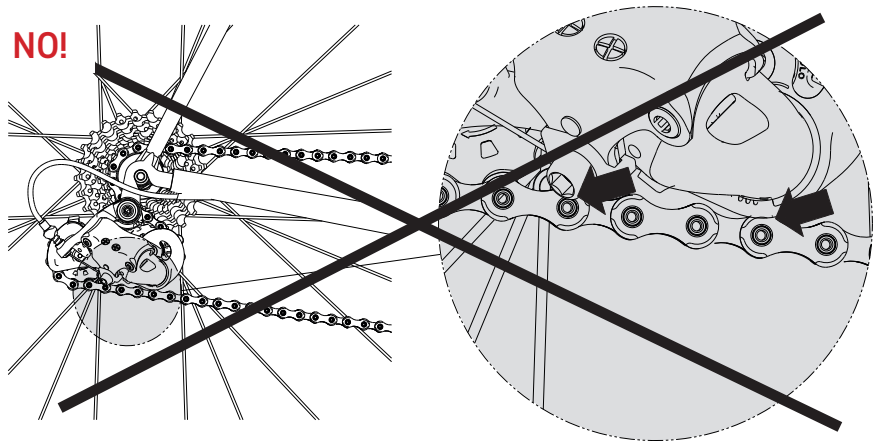
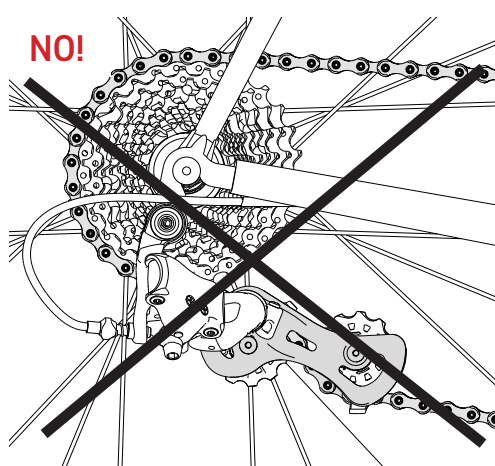

Fig.3
Fig.4
• In order to avoid malfunctioning of the drivetrain, the measurement H should not under any circumstances be less than 3 mm (Fig. 3) and must not be greater than 22 mm because, with a large sprocket and chainering the chain would be excessively taut (Fig. 4).